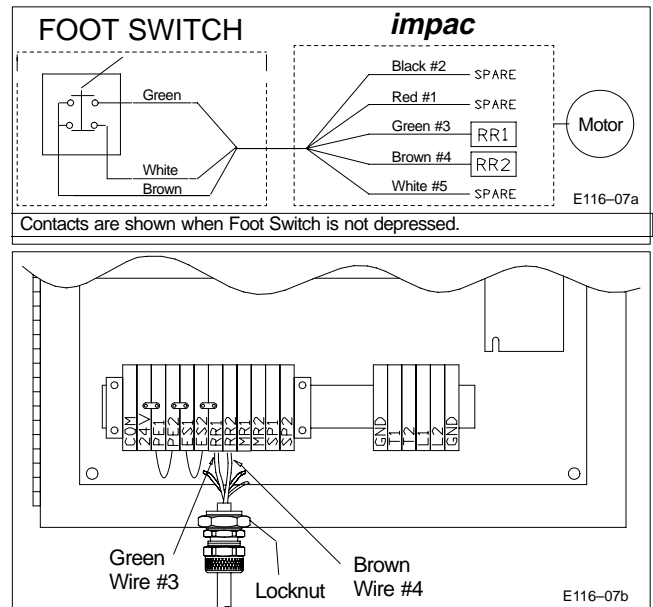

Figure 7: Sample Foot Switch to *impac* Wiring Connections
- b. Remove the Locknut (Figure 7), from the Cord Grip, and insert the Cord Grip through the hole at the bottom of the controller cabinet. Attach and tighten the Locknut with an adjustable wrench.
6. Wire the Foot Switch to the *impac* Conveyor Controller Terminal Block (Figure 7).